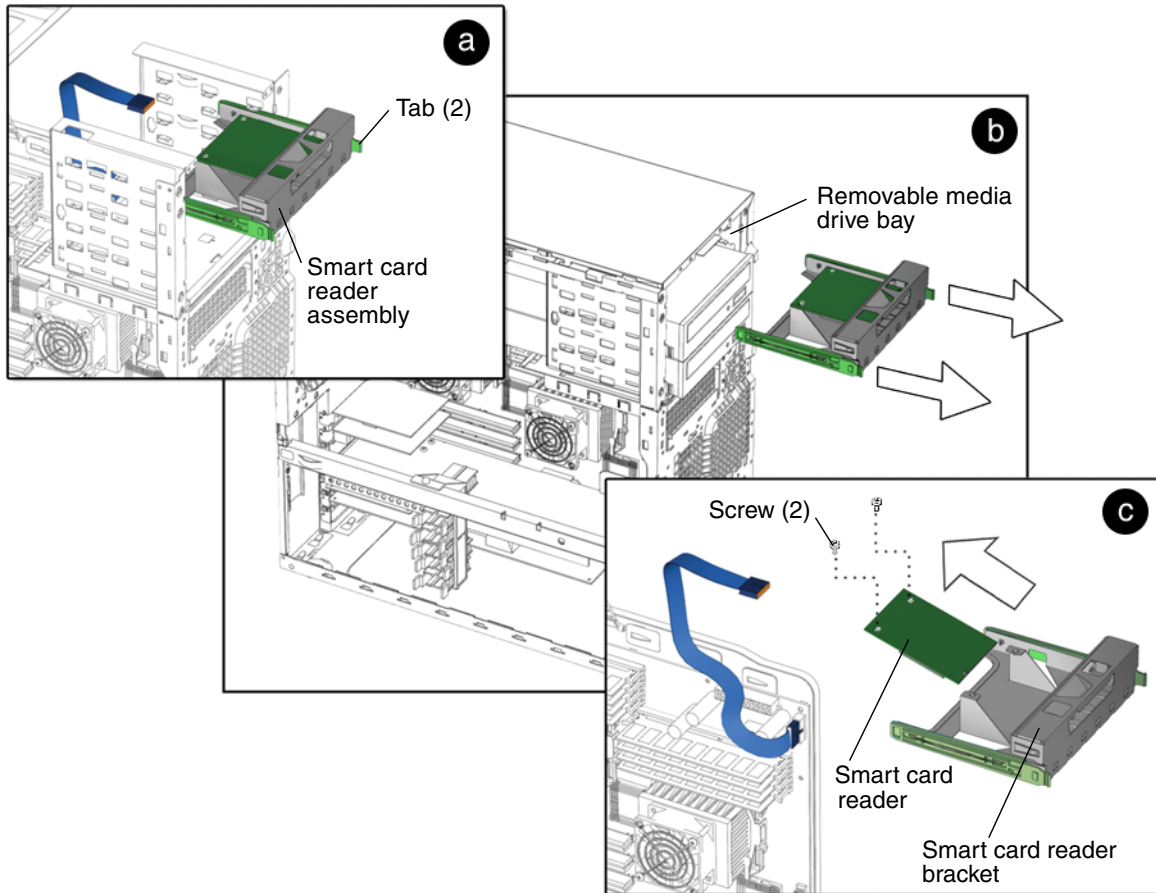

FIGURE 12-17 Removing the Smart Card Reader Assembly
4. Remove the smart card reader assembly (FIGURE 12-17).